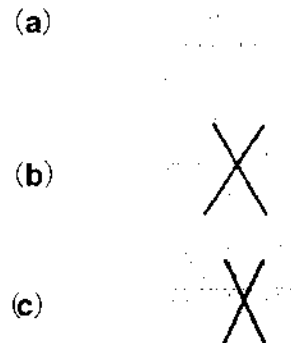

Fig. 27 Acceptable Flame only (a)
- With a protected, gloved hand, fine tune the air shutter until a stable, mostly blue flame is observed through the flame observation hole on each side of the firebox. Acceptable flames are shown in Fig. 27.